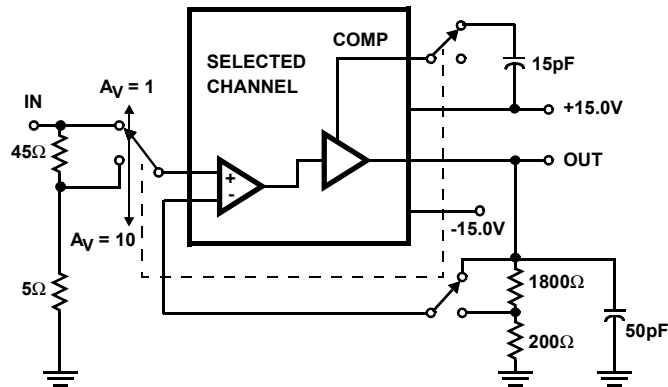

FIGURE 13. SLEW RATE AND TRANSIENT RESPONSE
11. See Figure 13 for test circuit.